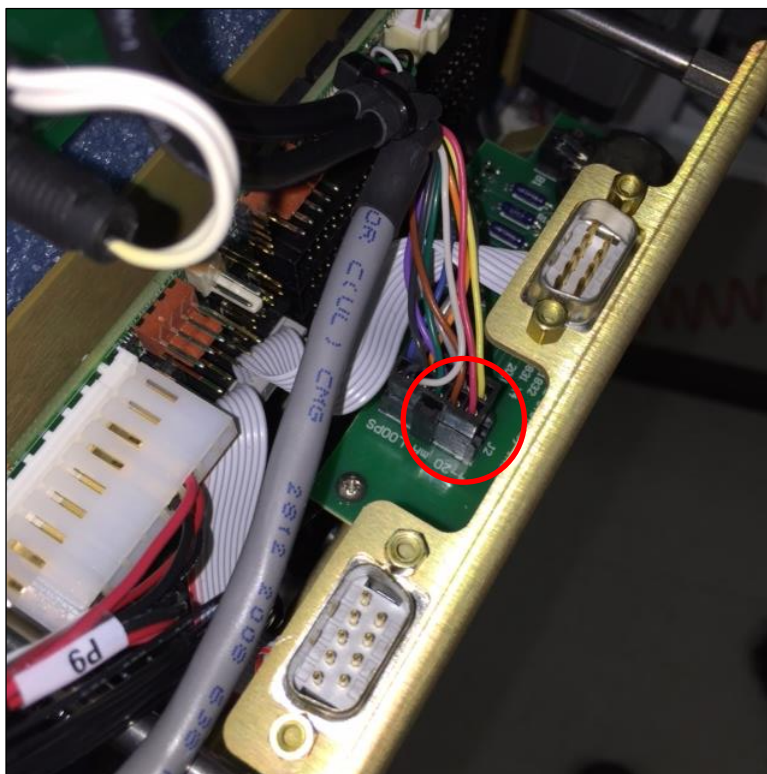

Figure 134. Disconnect cable harness from J2
3. Disconnect the cable harness from terminal J2 on the Printed Circuit Board (PCB). This is a latching connector with the release lever toward the left side of the computer assembly. The J2 connector is shown between the two ribbon cables in Figure 134.